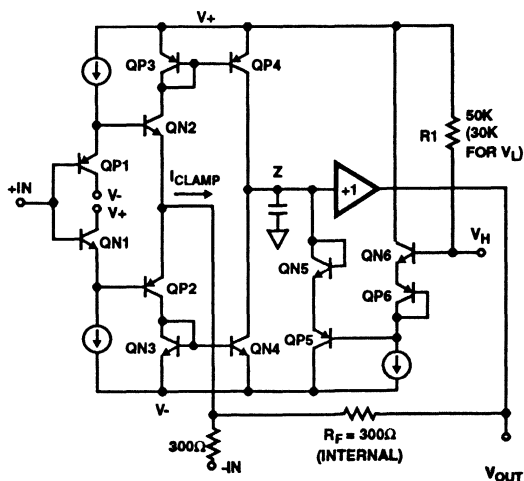

FIGURE 1. HFA1113 SIMPLIFIED V_H CLAMP CIRCUITRY
Figure 1 shows a simplified schematic of the HFA1113 input stage, and the high clamp (V_H) circuitry. As with all current feedback amplifiers, there is a unity gain buffer (QX1 - QX2) between the positive and negative inputs. This buffer forces -IN to track +IN, and sets up a slewing current of $(V_{IN} - V_{OUT})/R_F$. This current is mirrored onto the high impedance node (Z) by QX3-QX4, where it is converted to a voltage and fed to the output via another unity gain buffer. If no clamping is utilized, the high impedance node may swing within the limits defined by QP4 and QN4. Note that when the output reaches its quiescent value, the current flowing through -IN is reduced to only that small current (-IBIAS) required to keep the output at the final voltage.
The clamped output voltage will not be exactly equal to the voltage applied to V_H or V_L . Offset errors, mostly due to V_{BE} mismatches, necessitate a clamp accuracy parameter which is found in the device specifications. Clamp accuracy is a function of the clamping conditions. Referring again to Figure 1, it can be seen that one component of clamp accuracy is the V_{BE} mismatch between the QX6 transistors, and the QX5 transistors. If the transistors always ran at the same current level there would be no V_{BE} mismatch, and no contribution to the inaccuracy. The QX6 transistors are biased at a constant current, but as described earlier, the current through QX5 is equivalent to I_{CLAMP} . V_{BE} increases as I_{CLAMP} increases, causing the clamped output voltage to increase as well. I_{CLAMP} is a function of the overdrive level ($V_{IN} - V_{OUT CLAMPED}$), so clamp accuracy degrades as the overdrive increases. As an example, the specified accuracy of $\pm 80mV$ for a 2X overdrive degrades to $\pm 250mV$ for a 3X overdrive.